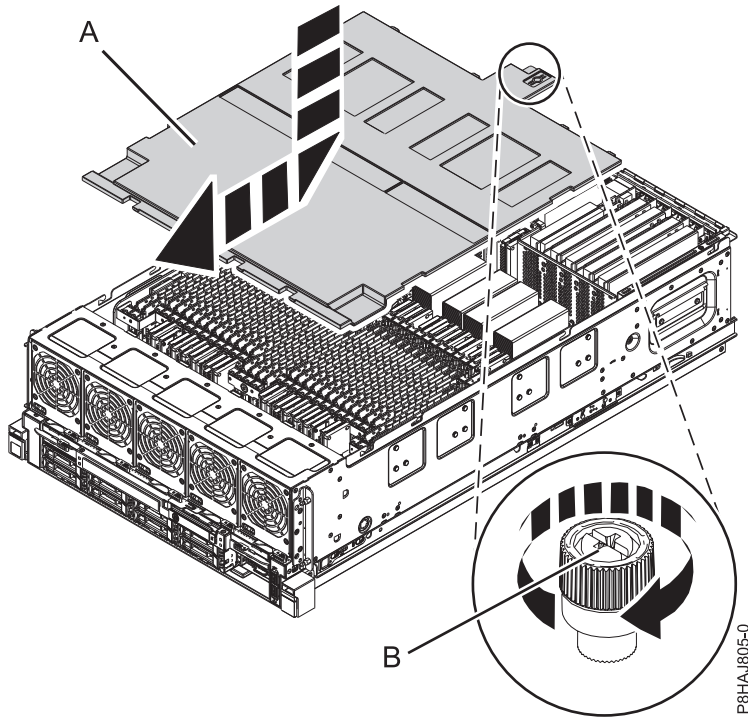

Figure 36. Replacing the safety cover
2. Push the safety cover (A) toward the chassis.
3. Tighten the thumbscrew (B) by turning it in the direction shown in Figure 36 on page 56 to fix the safety cover to the chassis.